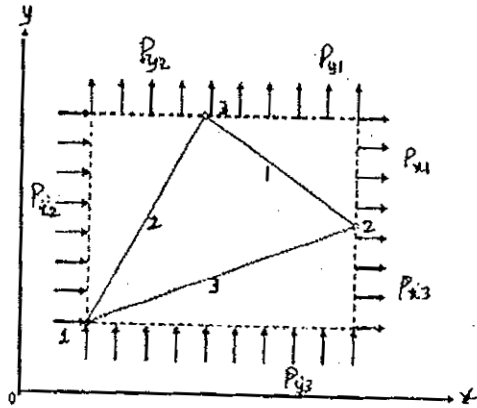

Fig. 2
- b) i) Derive the expression for nodal vector in a CST element subjected to pressures  $P_{x1}, P_{y1}$  on side 1,  $P_{x2}, P_{y2}$  on side 2 and  $P_{x3}, P_{y3}$  on side 3 as shown in Fig.2. (10)